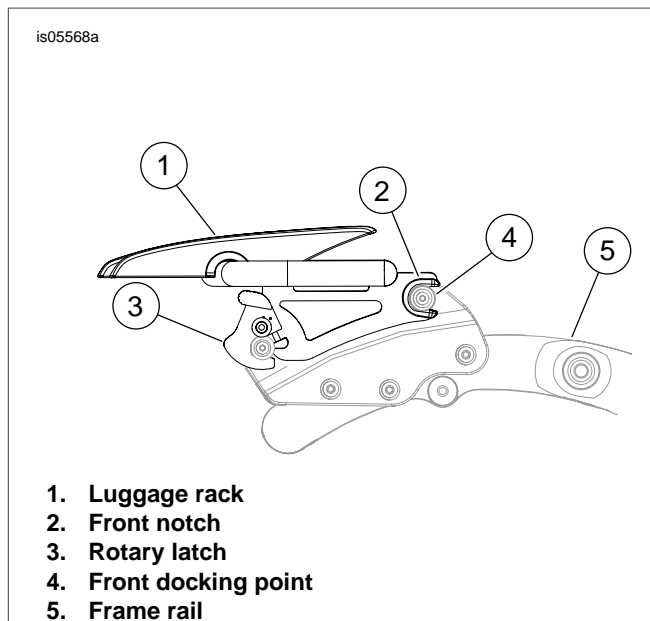

Figure 1. Stealth Luggage Rack
2. See Figure 1. While standing behind the motorcycle, place the rack side plate notches (2) into the forward docking points (4). Make sure the notches seat fully into the mounts.
The docking points must be fully engaged. See Figures 1 and 2 for correct engagement. If docking points are not fully engaged it could shift position or come loose during operation.